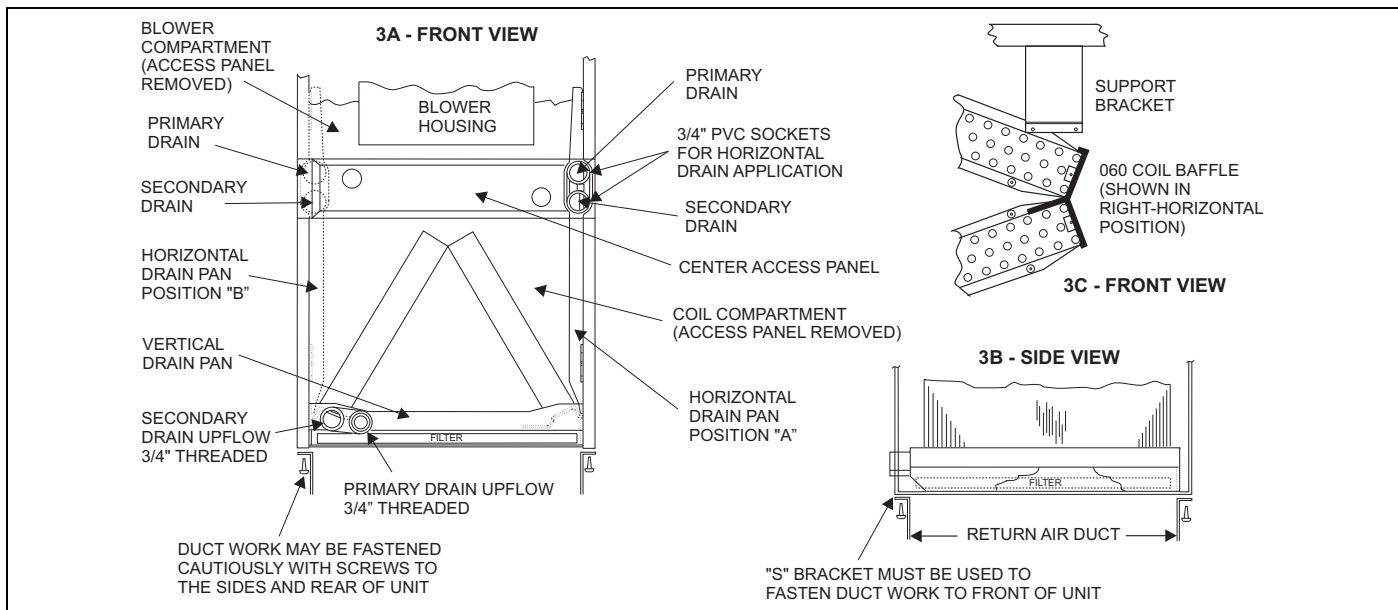

FIGURE 3: Filter Access &amp; Drain Pan Conversion / Coil Baffle
2. Remove two screws from horizontal drain pan, to remove pan from position "3A" if factory installed. See Figure 3.